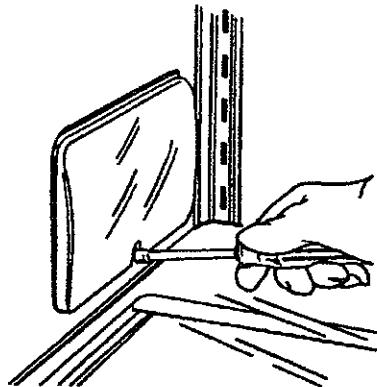

Figure 89
- Remove protective bulb shield by using a 1/4" driver or socket wrench. See Figure 89.